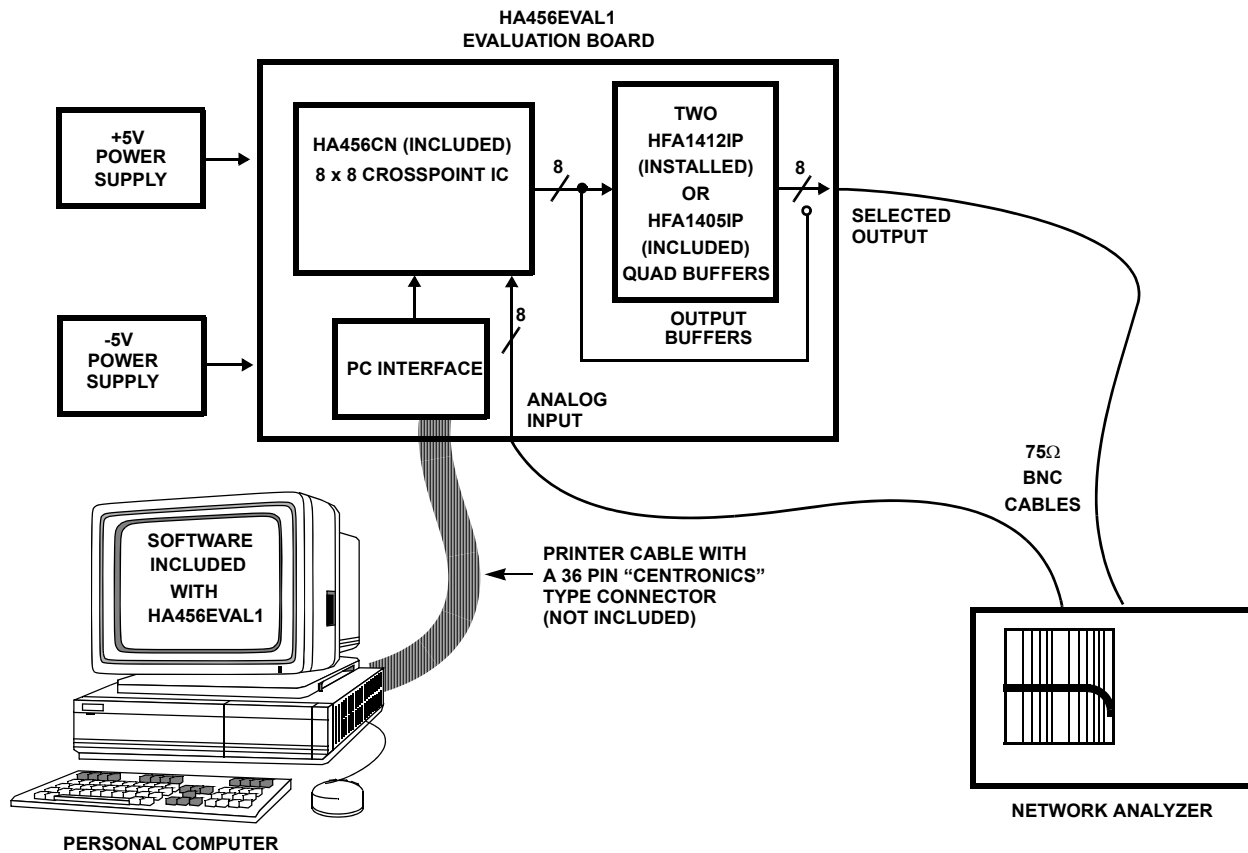

FIGURE 1. INTERSIL HA456EVAL1 EVALUATION SYSTEM SETUP BLOCK DIAGRAM
**Set Up Instructions (Refer to Figure 1)**